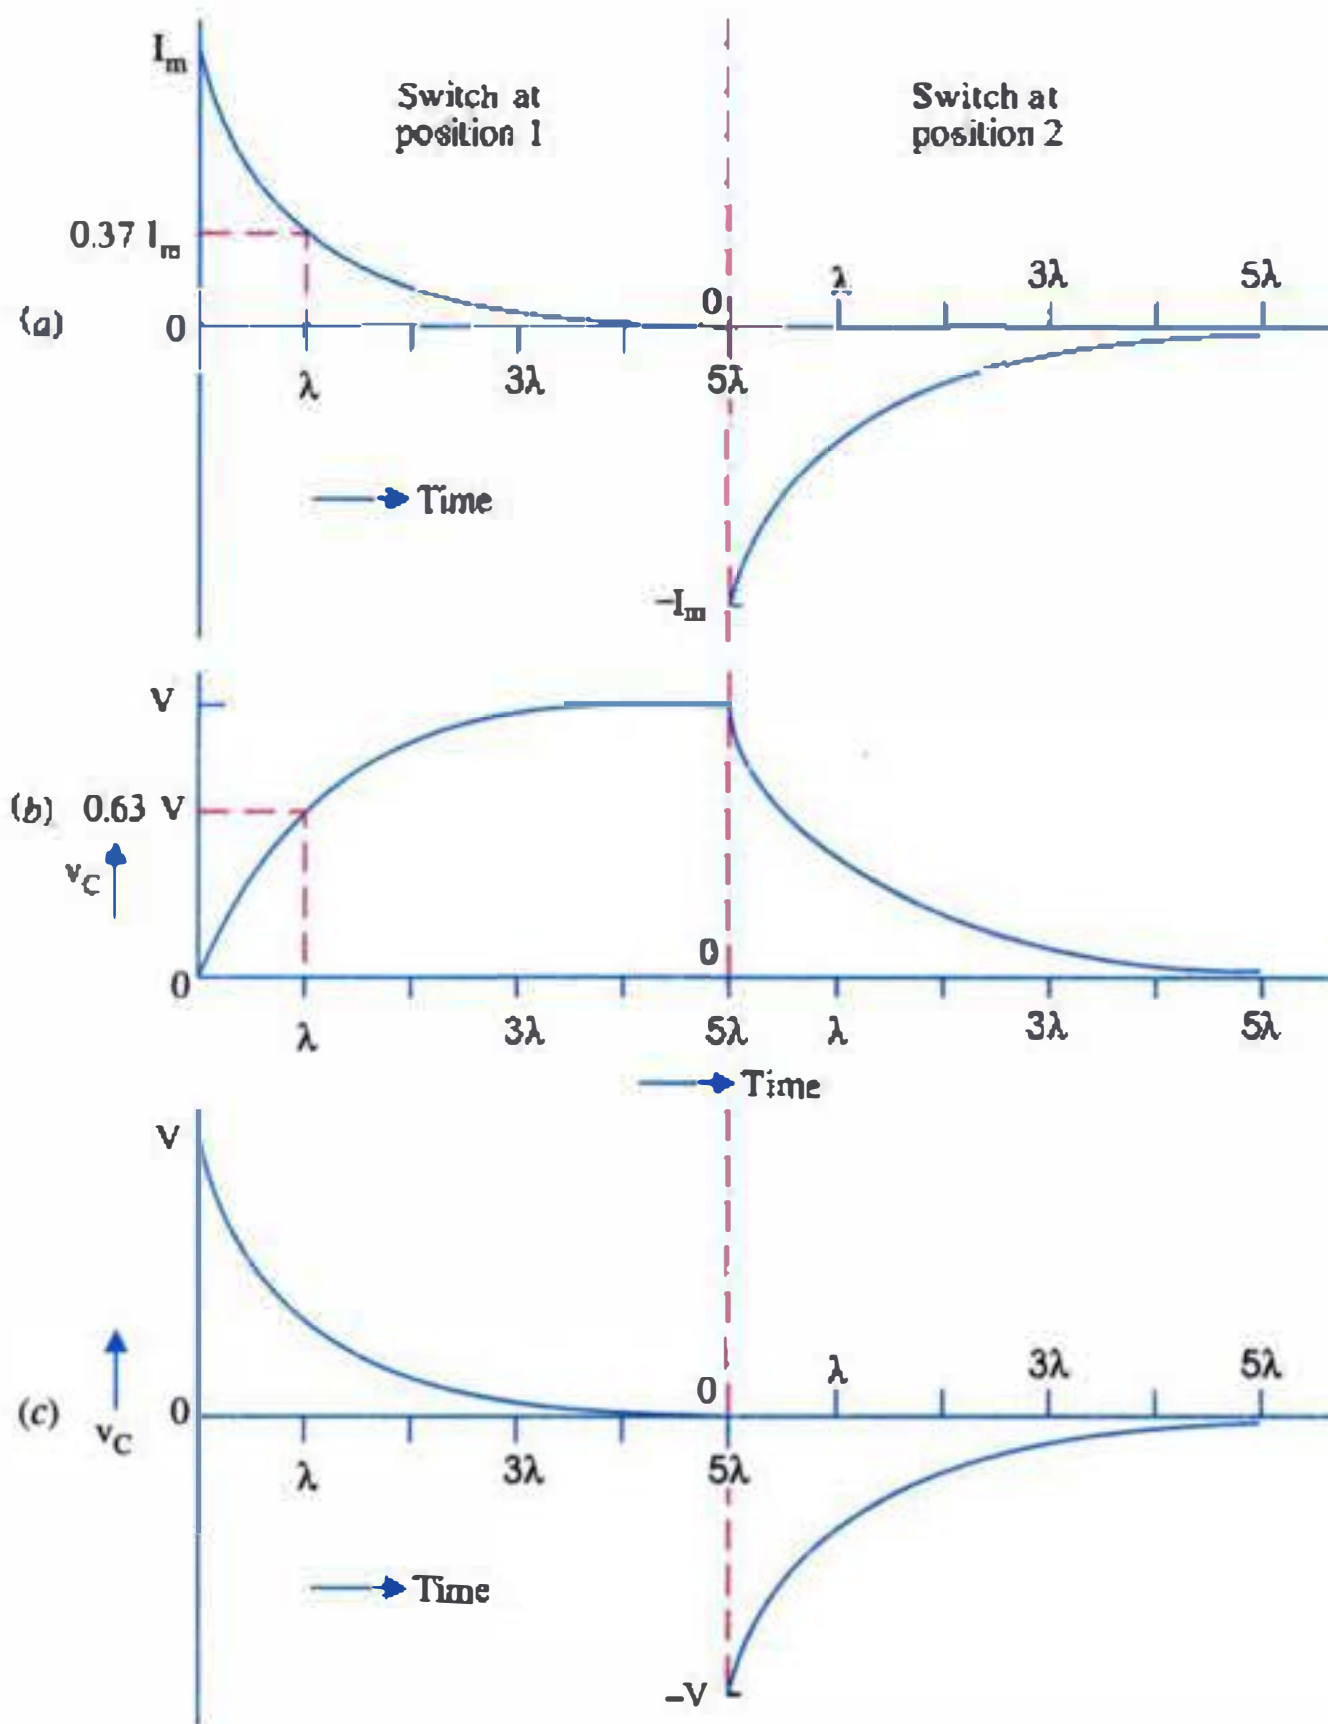

Fig. 10.7
1. It is the time during which the charging current falls to 37% of initial maximum value [Fig. 10.7 (a)].
2. It is the time during which capacitor voltage rises to 63% of its final steady value [Fig. 10.7 (b)].
1. At the instant of switching on $V_C = 0$ but charging current is maximum given by $I_m = V/R$ as shown in Fig. 10.7 though its rate of decrease is also maximum.
3. As charge starts collecting on C , v_C start decreasing at a progressively diminishing rate as shown in Fig. 10.7.